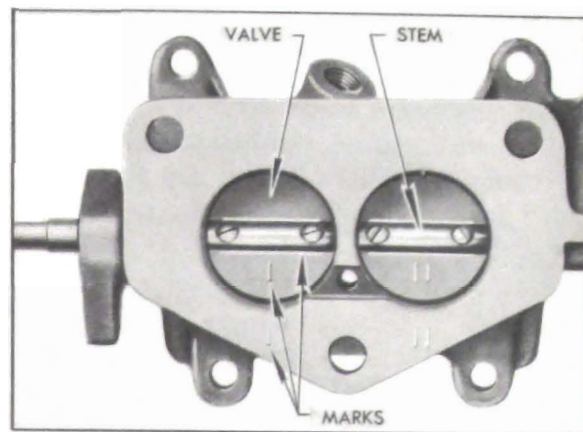

Figure 3-86—Marks on Throttle Valves
19. Before throttle valves are removed, they should be marked so that each valve may be reinstalled in the barrel from which it was removed and may be accurately positioned in the barrel of throttle body. Using a sharp scriber, lightly scratch one line on one valve and its barrel and two lines on the other valve and barrel; also scribe lines on each valve along both edges of the valve stem. See figure 3-86. After